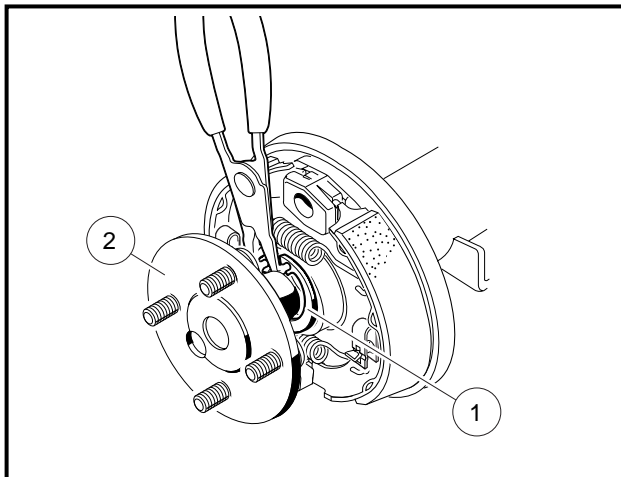

Figure 6-3 Remove Axle Retaining Ring
6.1. Using 90° snap ring pliers (CCI 1012560), remove axle retaining ring (1) (**Figure 6-3, Page 6-2**).
6.2. Pull the axle shaft (2) from the axle tube (**Figure 6-3, Page 6-2**).
6. Install axle shaft (2) into axle tube and install retaining ring (1) (**Figure 6-3, Page 6-2**). See **WARNING** on page 6-9.
- 4.1. Using 90° snap ring pliers, remove the axle retaining ring (1) (**Figure 6-3, Page 6-2**).
- 4.2. Pull the axle shaft (2) from the axle tube (**Figure 6-3, Page 6-2**).